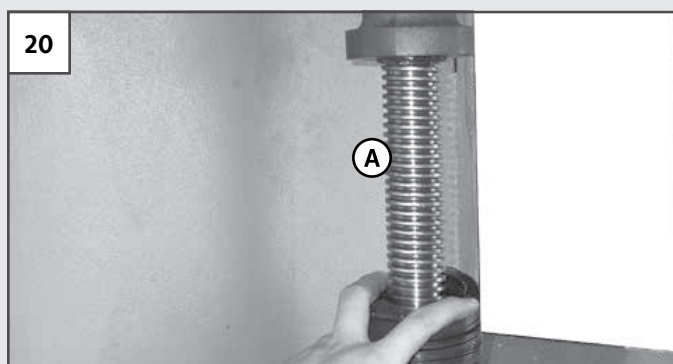

FIGURE 20: LUBRICATING ELEVATION SCREWS
- Lubricate the **ELEVATION SCREWS (A)**, **SLIDING SURFACES (B)** and **CHAINS (C)** every month. Use all-purpose grease for the **CHAINS** and **ELEVATION SCREWS**. Use all-purpose oil for the **SLIDING SURFACES**. See Figures 20 to 24.